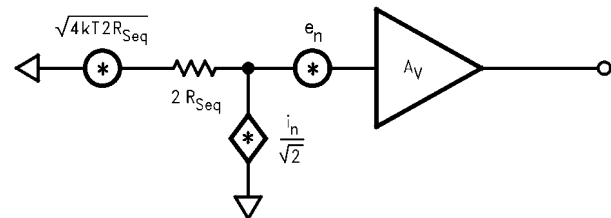
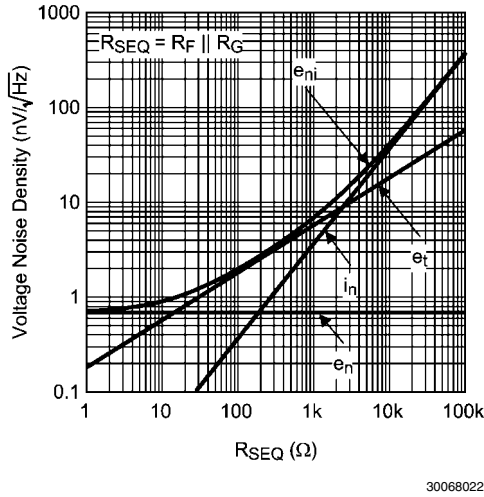

FIGURE 8. Noise Model with $R_f \parallel R_g = R_{Seq}$
FIGURE 9. Voltage Noise Density vs. Source Resistance
Figure 8 illustrates the equivalent noise model using this assumption. *Figure 9* is a plot of e_{ni} against equivalent source resistance (R_{Seq}) with all of the contributing voltage noise source of *Equation 2*. This plot gives the expected e_{ni} for a given (R_{Seq}) which assumes $R_f \parallel R_g = R_{Seq}$ for bias current cancellation. The total equivalent output voltage noise (e_{no}) is $e_{ni} * A_V$.
As seen in *Figure 9*, e_{ni} is dominated by the intrinsic voltage noise (e_n) of the amplifier for equivalent source resistances below 15Ω. Between 15Ω and 2.5 kΩ, e_{ni} is dominated by the thermal noise ($e_t = \sqrt{4kT(2R_{Seq})}$) of the equivalent source resistance R_{Seq} ; incidentally, this is the range of R_{Seq} values where the LMH6629 has the best (lowest) Noise Figure (NF) for the case where $R_{Seq} = R_f \parallel R_g$.
Above 2.5 kΩ, e_{ni} is dominated by the amplifier's current noise ($i_n = \sqrt{2} i_{n,R_{Seq}}$). When $R_{Seq} = 190\Omega$ (i.e., $R_{Seq} = e_n / \sqrt{2} i_n$), the contribution from voltage noise and current noise of LMH6629 is equal. For example, configured with a gain of +10V/V giving a -3dB of 825 MHz and driven from $R_{Seq} = R_f \parallel R_g = 20\Omega$ ($e_{ni} = 1.07 \text{ nV}\sqrt{\text{Hz}}$ from *Figure 9*), the LMH6629 produces a total equivalent output noise voltage ($e_{ni} * 10 \text{ V/V} * \sqrt{(1.57 * 825 \text{ MHz})}$) of 385 μV_{rms} .